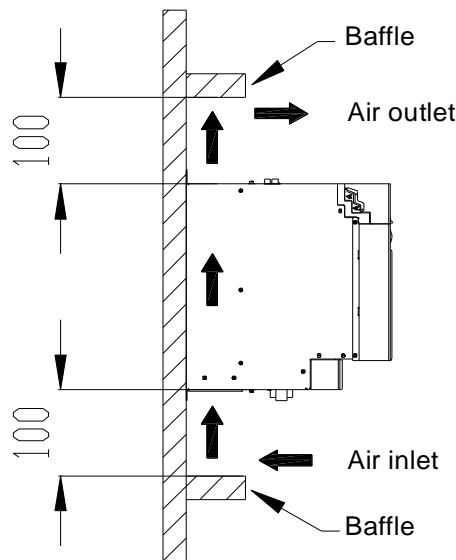

Figure 4-4 Clearances from the upper and lower barriers (the preceding sizes are the minimum, unit: mm)
- ✧ A minimum ventilation clearance must be kept from the top and bottom of each unit to ensure good heat dissipation. For details, see Figure 4-4.